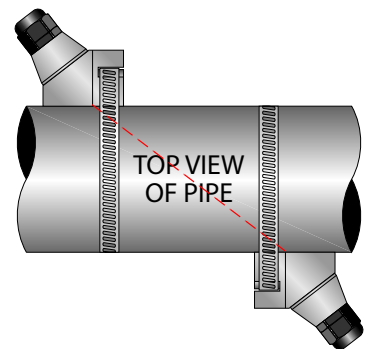

Figure 21: Z-Mount transducer placement
7. Place the downstream transducer on the pipe at the calculated transducer spacing. See Figure 21. Using firm hand pressure, slowly move the transducer both towards and away from the upstream transducer while observing signal strength. Clamp the transducer at the position where the highest signal strength is observed. A signal strength between 5...98 is acceptable.